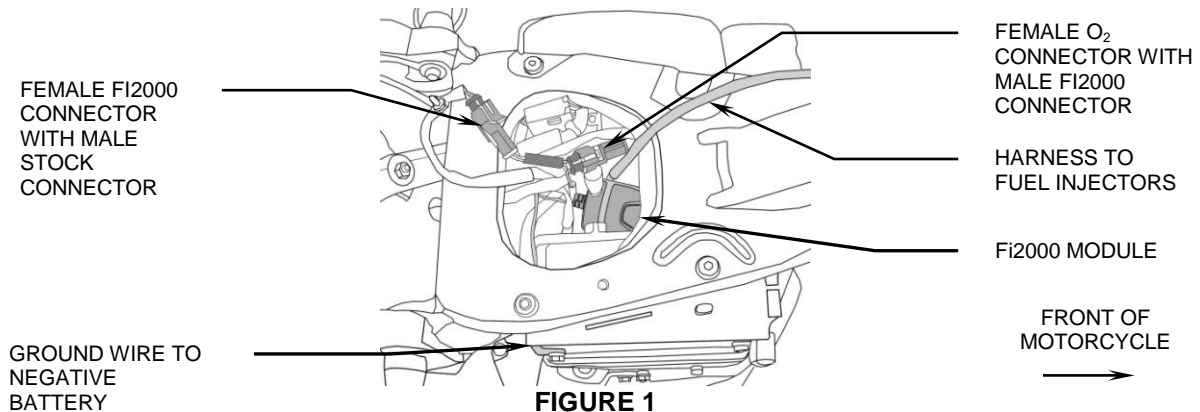

FIGURE 1
3. Lay the Fi2000 module in the area underneath the seat, do not attach it to the motorcycle, route the fuel injector harness forward up the left side of the frame using the plastic harness protector and across to the right side just ahead of the rear cylinder head, See Figure 1. Route the forward set of connectors under the upper motor mount.
7. It is now time to install the oxygen sensor harnesses. Cut the factory zip-tie holding the rear fender wire harness to the ECU bracket and pull that harness up and out of the way, see Figure 1. Reach down and pull the remaining wiring up and out of the space between the battery box on the right and the ECU electrical box on the left. Feed the longer of the two oxygen sensor harnesses down between the rear fender and the frame.
10. Locate the black waterproof connector in the wire harness bundle that was tucked down into the open area under the seat, see Figure 1. Unplug the female connector that comes from the rear oxygen sensor, and mate it with the male connector from the shorter Fi2000 O₂ sensor harness. Mate the stock male connector with the female Fi2000 connector.
12. Remove the backing from the Velcro and attach the Velcro pad down between the back of the battery and the ECU on the flat area of the frame. Apply the mating Velcro to the back of the Fi2000 and attach, see Figure 1. Replace the rear fender wire harness above the Fi2000.